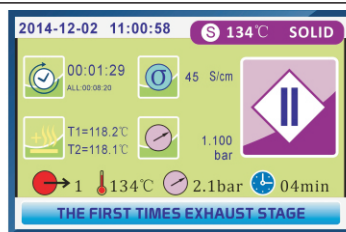

Fig.5.3-24
5.3.2.3. THE FIRST TIMES EXHAUST STAGE (Fig.5.3-24)